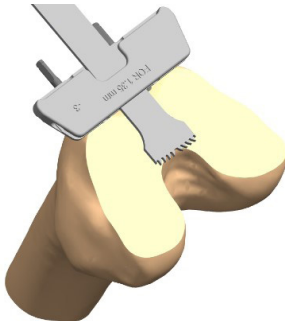

Figure 76
- 1. Resect the distal femur (Figure 76) then remove the distal femoral cutting block.